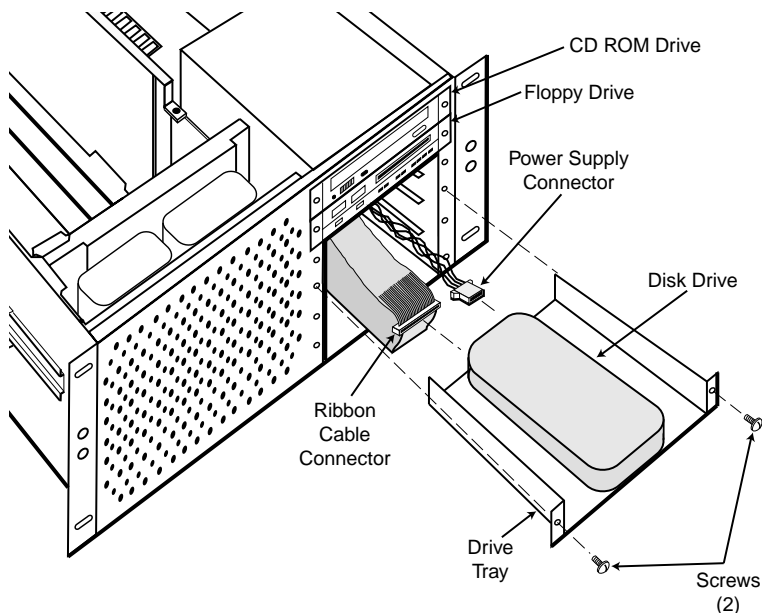
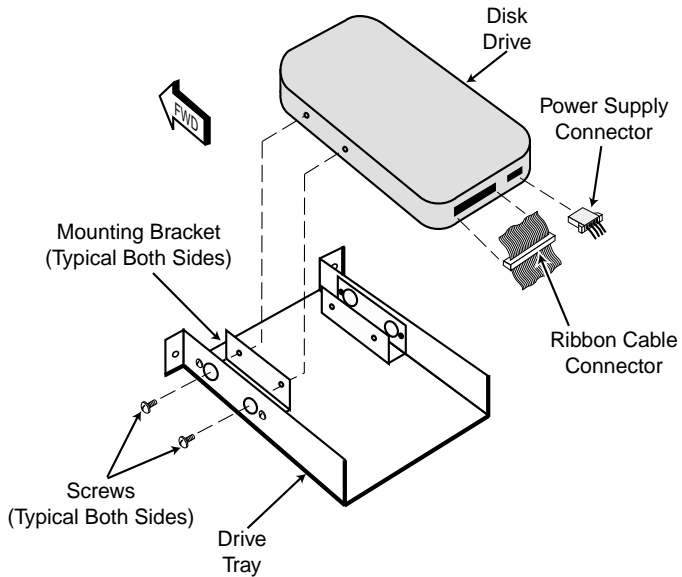

Figure 5-1. Disk Drive Installation/Removal
Figure 5-2. Disk Drive Tray Assembly
Refer to Figure 5-1 (showing Bay 3 as an example) for adding and replacing disk drives.
Refer to Figure 5-1 and Figure 5-2 for Disk Drive removal.
- [] 1. Refer to Figure 5-1. Remove the two (2) screws securing the Disk Drive Tray to the chassis.
- [] 3. Refer to Figure 5-2. Disconnect Power Supply connector.
- [] 5. While referring to Figure 5-2, remove the two (2) screws from each side of Disk Drive (four screws total) that secure it to the tray.
Refer to Figure 5-1 and Figure 5-2 for Disk Drive installation.
- [] 2. Referring to Figure 5-2, secure Disk Drive to tray with four (4) screws (2 on each side).
- [] 6. Secure Drive Tray to chassis with two (2) screws. (See Figure 5-1).